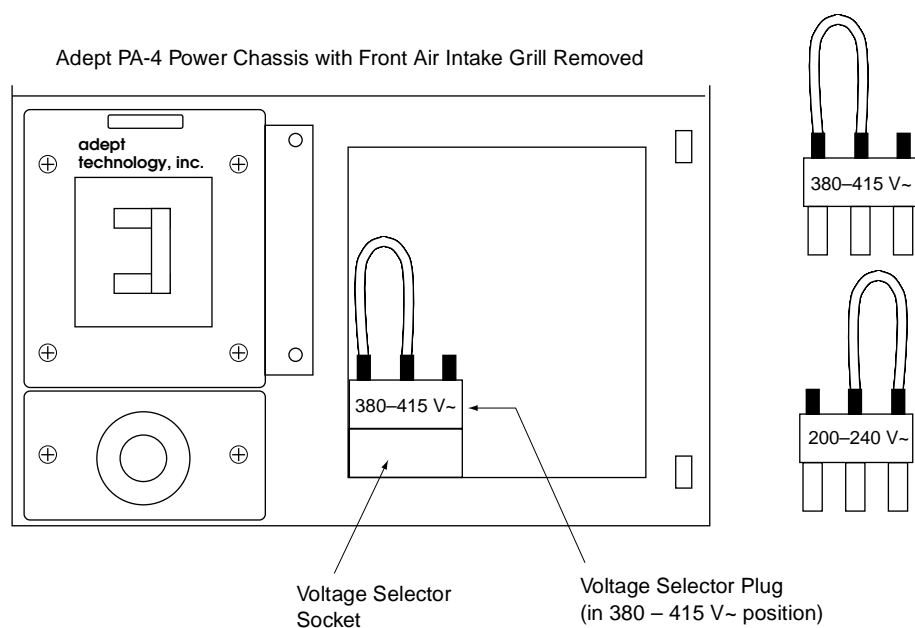

Figure 4-21. Changing Voltage in Power Chassis
2. Inspect the voltage setting; it is marked on the front of the voltage selector plug. To change the voltage setting, remove the selector, rotate it 180 degrees so the required setting is shown, and replace it. See Figure 4-21 on page 80.
2. Inspect the voltage setting; it is marked on the front of the voltage selector plug. To change the voltage setting, remove the selector, rotate it 180 degrees so the required setting is shown, and replace it (see Figure 4-21 on page 80).